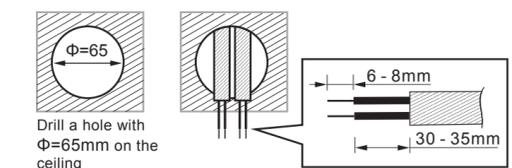

FIG.11
3.4.2.1 To install sensor, please drill a hole with diameter of 65mm on ceiling board and keep the power cable outside. Please strip off 6 - 8mm of cable sheathing for wiring (See FIG.11).